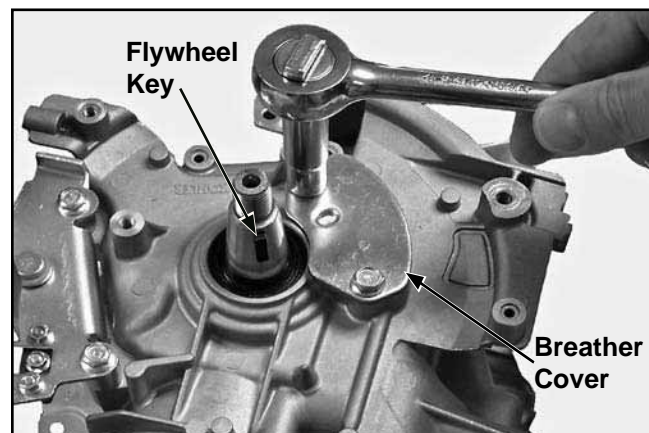

Figure 8-30. Removing Breather Cover.
4. Remove the flywheel key from the crankshaft. See Figure 8-30.
1. Remove the two hex flange screws securing the breather cover. See Figure 8-30. Remove cover.